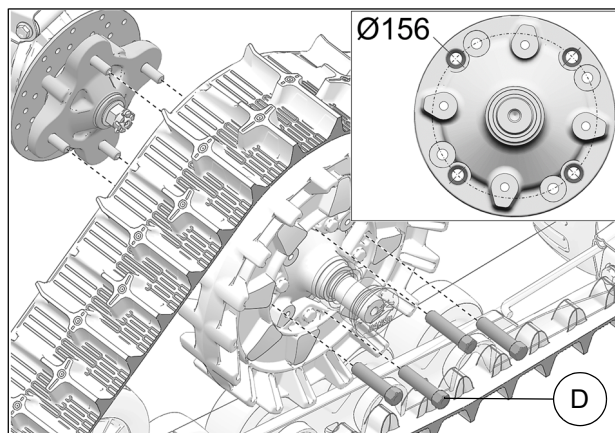

Fig. 8
8. Secure undercarriage to rear hub using the provided M12 lug nuts (**D**). Use bolt circle Ø156 mm. See Fig. 8